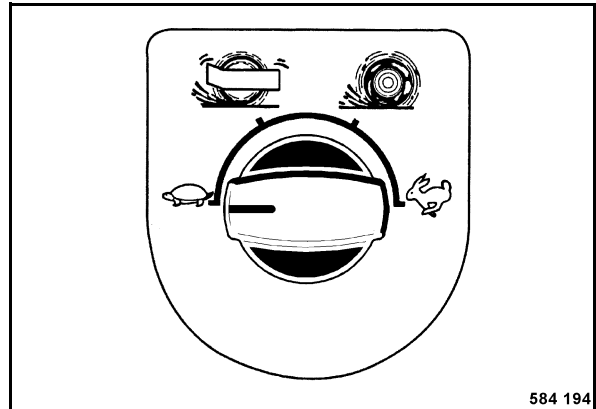

Fig. 92
- Pre-select working speed (Fig. 92).